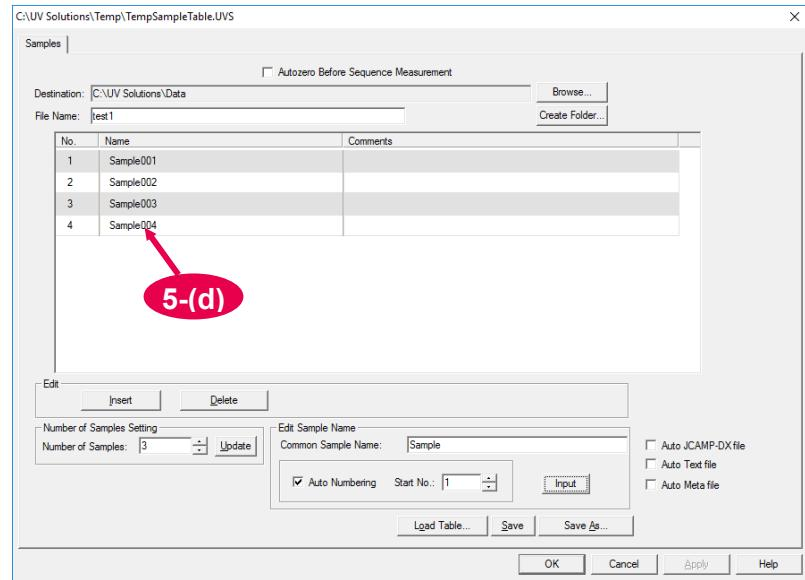

Fig. 3-16
- (d) Now click Input key, and the Common Sample Name + Start No., Common Sample Name + (Start No. + 1)... will be set. ("SampleA001 to SampleA005" are set for the sample name in Fig. 3-16.)